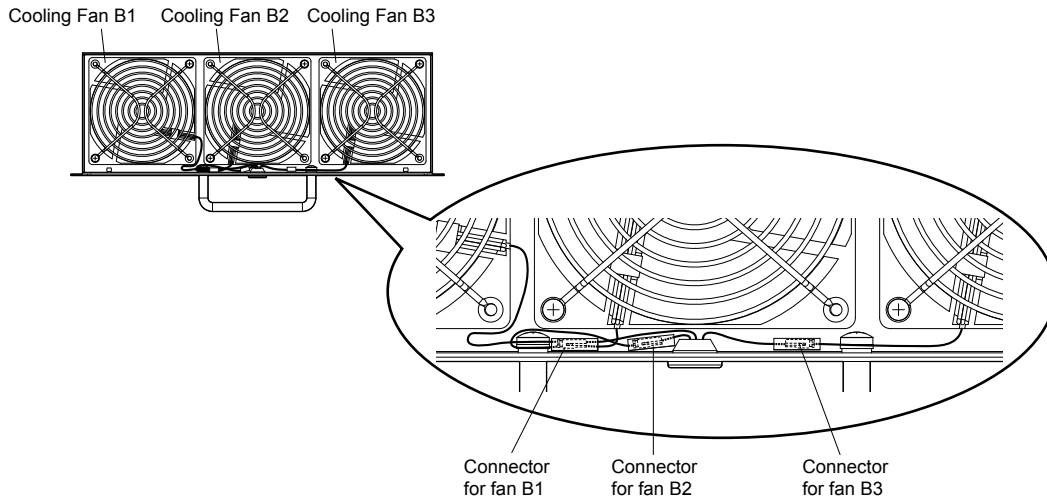

Figure 43 Cooling Fan Wiring: 4T0414□
- Place the fan connector covered by the tube as shown in Figure 43.